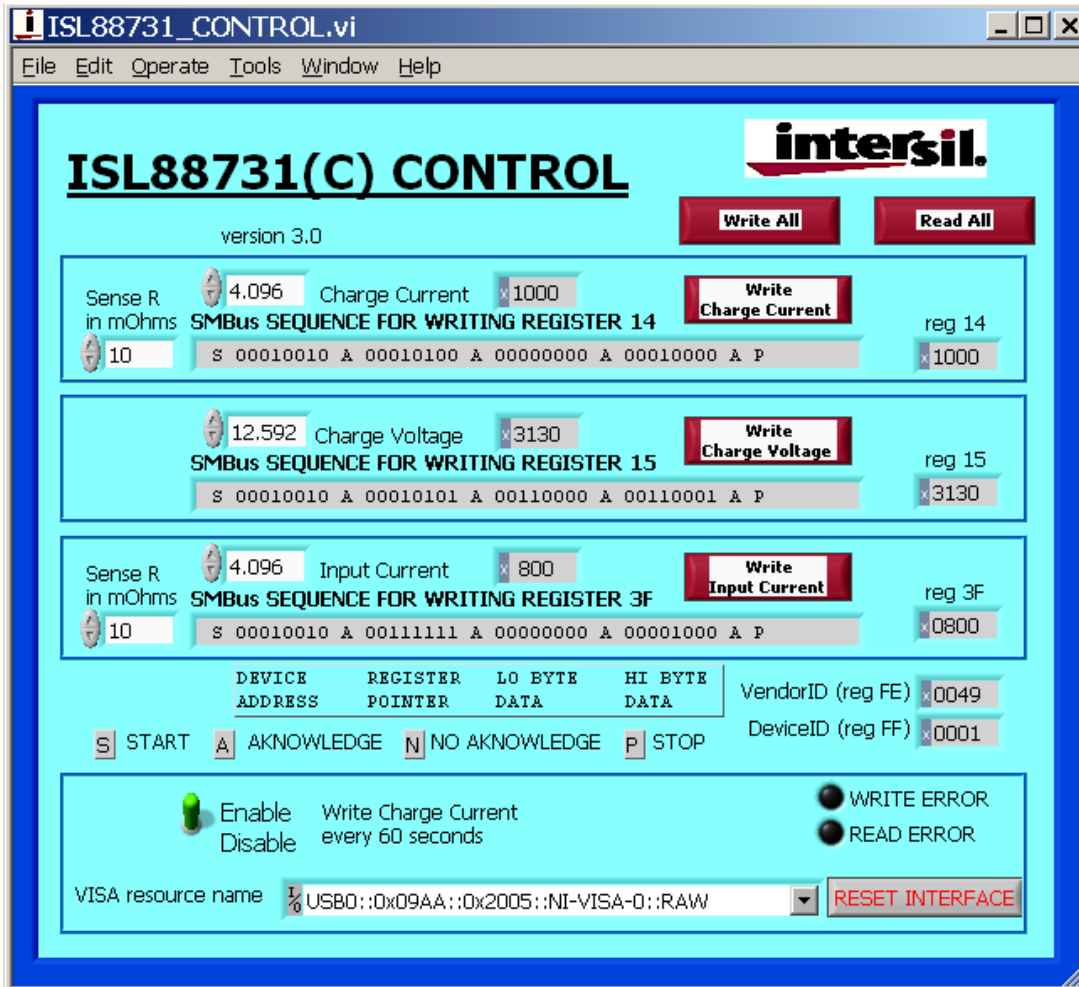

FIGURE 5. ISL88731(C)EVAL2Z CONTROL SOFTWARE SCREEN SHOT
Figure 5 shows a screen shot of the ISL88731(C) control software user interface.